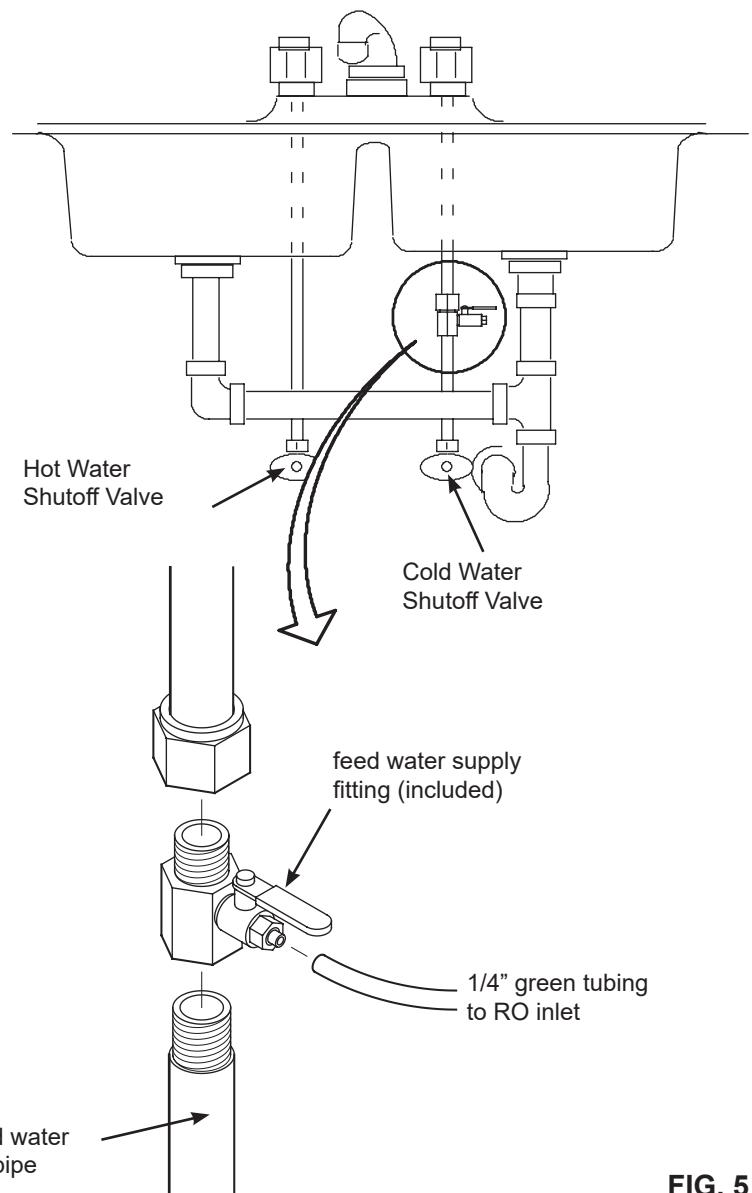

FIG. 5
1. Before starting, close the hot and cold water shutoff valves (See Figure 5).
Check and comply with national and local plumbing codes as you plan, then install a supply (cold) water fitting. The fitting must provide a leak tight connection to the RO 1/4» (6.35 mm) OD tubing, see Figure 20, page 13. A typical installation, using standard plumbing fittings is shown in Figure 5.
**IMPORTANT:** Before starting, close the hot and cold water shutoff valves (See Figure 5). Use a pan to catch water when disassembling the pipe.
Complying with plumbing codes, install a fitting on the cold water pipe to adapt 1/4» (6.35 mm) OD tubing. A typical connection is shown in Figure 5. You can use solder or threaded fittings. If threaded fittings are used, be sure to use pipe joint compound or Teflon tape on outside threads.